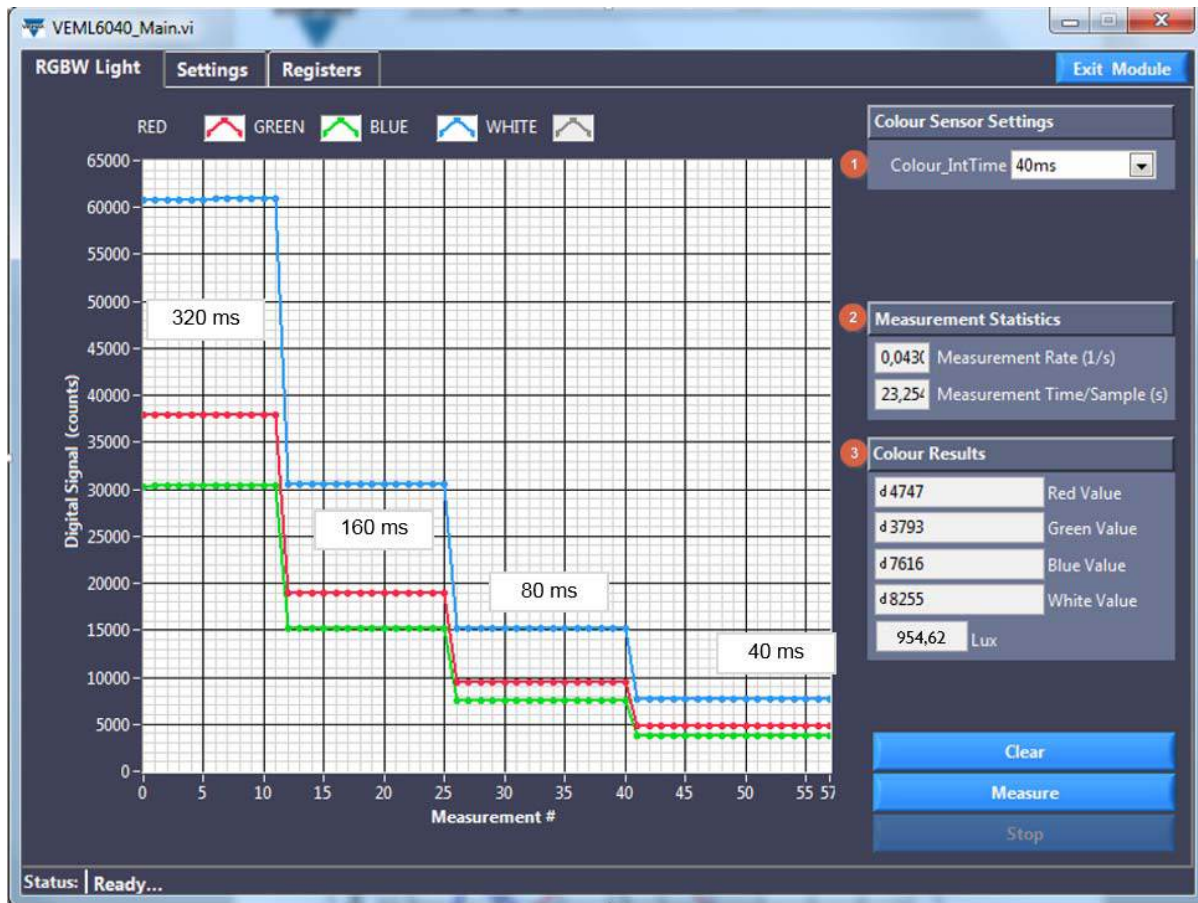
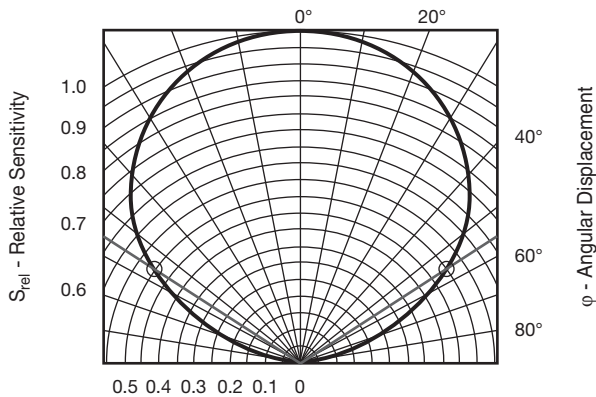

Fig. 9 - Linearity of the Integration Times
Fig. 10 - Relative Radiant Sensitivity vs. Angular Displacement
With the help of the VEML6040 sensor board and the accompanying demo software, it is easy to test the RGB sensor. The six possible integration times are selectable over the GUI (1), as shown in fig. 9. As shown in fig. 10, the output results of the sensor are strictly linear over the integration times. A factor of 2 in the integration time leads to a factor of 2 in the output data counts, shown on the graph and the color results section (3). Depending on the chosen integration time, the measurement rate will be affected accordingly (2).